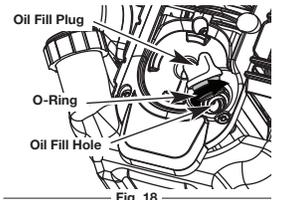

Fig. 18
3. Remove the oil fill plug from the crankcase (Fig. 18).